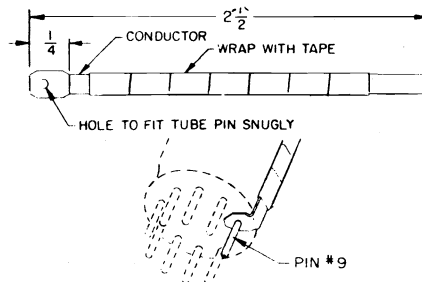

Figure 12 - Mixer coupling gimmick.
| 5. | CW generator to TP (M) (for 470V065H02, 470V066H01 and 470V066H02 tuners, see Figures 17 & 18; for 470V067H01 tuner, use gimmick shown in Figure 12) at: a. 44.25 MC b. 44.25 MC c. 41.25 MC d. 47.25 MC e. 47.25 MC } It may be necessary to increase generator output and/or decrease bias. | Tuner mixer output coil: Maximum on VTVM T200: Maximum on VTVM L201: Minimum on VTVM L202: Minimum on VTVM L203: Minimum on VTVM |